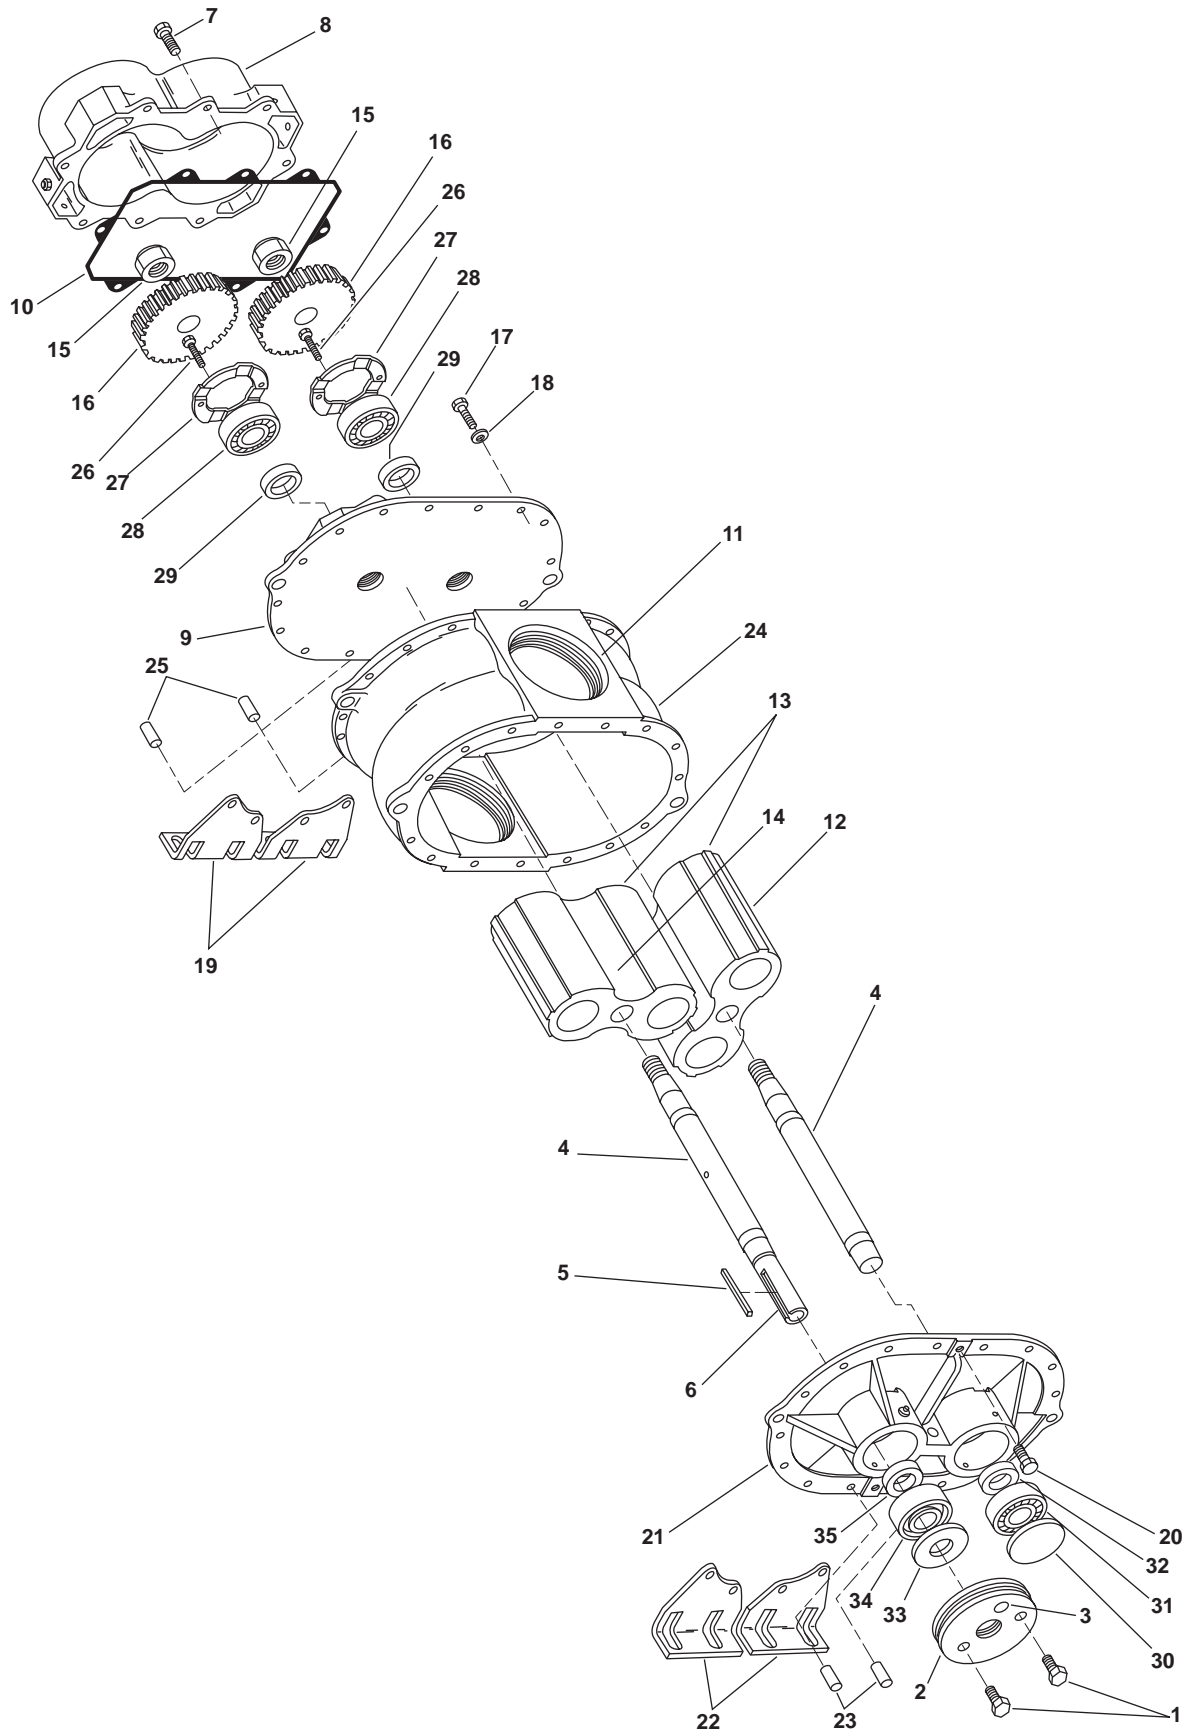

Figure 1. Blower Assembly
2. Remove the two bolts (figure 1, item 1) from the taper lock sheave (figure 1, item 2).
3. Install one of the bolts (figure 1, item 1) in the jacking hole (figure 1, item 3) of the taper lock sheave (figure 1, item 2) and tighten until the taper lock sheave is freed from the drive shaft (figure 1, item 4).
4. Remove the key (figure 1, item 5) from the drive shaft (figure 1, item 4). Remove any burrs from the key and the keyway (figure 1, item 6).
5. Remove the eight bolts (figure 1, item 7) from the gearbox cover (figure 1, item 8).
6. Remove the gearbox cover (figure 1, item 8) from the gear end head plate (figure 1, item 9).
7. Remove the gasket (figure 1, item 10) from the gearbox cover (figure 1, item 8). Discard the gasket.
8. Through the blower pipe connection (figure 1, item 11), place an alignment mark on the strip (figure 1, item 12) of one impeller (figure 1, item 13) and on the mating waist (figure 1, item 14) of the other impeller using a piece of chalk or an indelible marker.
10. Loosen, but do not remove, the gear nuts (figure 1, item 15) from the drive shafts (figure 1, item 4).
11. Using a mechanical puller, unseat the gears (figure 1, item 16) from the drive shafts (figure 1, item 4).
12. Remove the gear nuts (figure 1, item 15) and the gears (figure 1, items 16) from the drive shafts (figure 1, item 4). Note the location of each gear for use during assembly.
13. Remove the 14 bolts (figure 1, item 17) and two washers (figure 1, item 18) from the gear end head plate (figure 1, item 9). Remove the gear end feet (figure 1, item 19).
15. Remove the 14 bolts (figure 1, item 20) from the drive end head plate (figure 1, item 21). Remove the drive end feet (figure 1, item 22).
16. Drive out the two dowel pins (figure 1, item 23) in the drive end head plate (figure 1, item 21).
17. Position the cylinder (figure 1, item 24) so the drive shafts (figure 1, item 4) are vertical on the gear end.
18. Using a brass hammer, tap the drive shafts (figure 1, item 4) through the gear end head plate (figure 1, item 9) and into the cylinder (figure 1, item 24).
19. Make single and double identifying punch marks on the mating edges of the gear end head plate (figure 1, item 9) and the cylinder (figure 1, item 24) to aid in proper orientation of the gear end head plate upon assembly.
20. Drive out the two dowel pins (figure 1, item 25) from the gear end head plate (figure 1, item 9).
21. Remove the four self locking cap screws (figure 1, item 26) from the two bearing clamp plates (figure 1, item 27). Remove the bearing clamp plates and discard the self locking cap screws.
22. Remove the gear end head plate (figure 1, item 9) from the cylinder (figure 1, item 24).
23. Working from the inside of the gear end head plate (figure 1, item 9), tap the two bearings (figure 1, item 28) and the two bearing seals (figure 1, item 29) out of the gear end head plate. Discard the bearings and seals.
24. Make single and double identifying punch marks on the mating edges of the drive end head plate (figure 1, item 21) and the cylinder (figure 1, item 24) to aid in proper orientation of the drive end head plate upon reassembly.
25. Position the cylinder (figure 1, item 24) so the drive shafts (figure 1, item 4) are vertical on the drive end.
26. Using a brass drift, tap the drive shafts (figure 1, item 4) through the drive end head plate (figure 1, item 21) and into the cylinder (figure 1, item 24).
27. Remove the drive end head plate (figure 1, item 21) from the cylinder (figure 1, item 24).
28. Remove the impellers (figure 1, item 13) and the drive shafts (figure 1, item 4) from the cylinder (figure 1, item 24).
29. Remove the drive shafts (figure 1, item 4) from the impellers (figure 1, item 13).